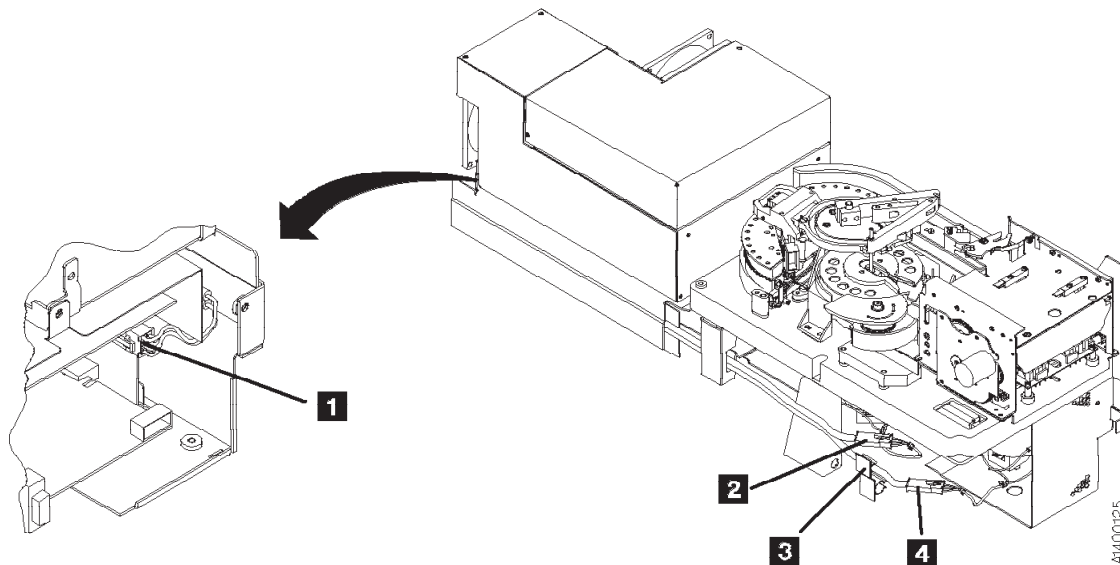

Figure 10-82. Motor Cables
4. See Figure 10-82. Disconnect the motor cables at the rear of the drive **1**.